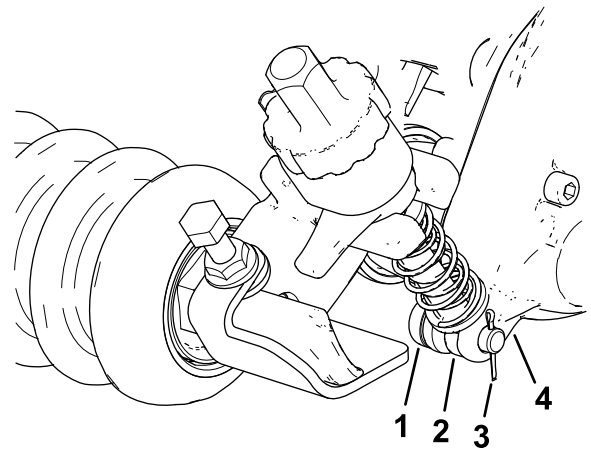

Figure 10
2. On the groomer box side, slide the adjuster-arm rod of the HOC bracket into the gap on the groomer drive box and secure it with an adjuster pin and cotter pin as shown in Figure 10.